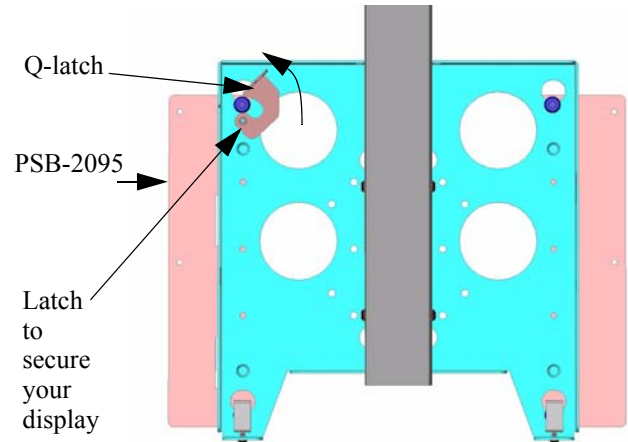

Figure 7. Mounting
3. Make sure the mount is level (see "ADJUSTMENTS" on page 8, Roll) and latch is positioned so it will not obstruct plasma installation (see Figure 7).